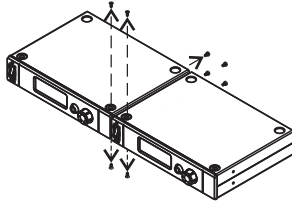

Fig. 8
(A) Remove top and bottom screws, as Fig. 8.